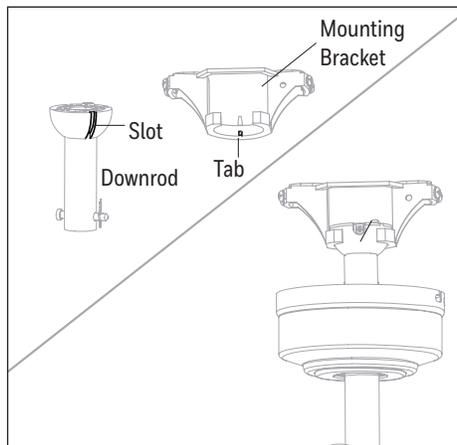

Figure 3.5
5. Install the ball end of the downrod into the opening of the mounting bracket (Figure 3.5). **WARNING:** Failure to align the slot in the ball with the tab on the mounting bracket may cause the fan to fall, which could result in injury or death.
6. Insert the receiver inside the mounting bracket with the flat side facing the ceiling (Figure 3.5).